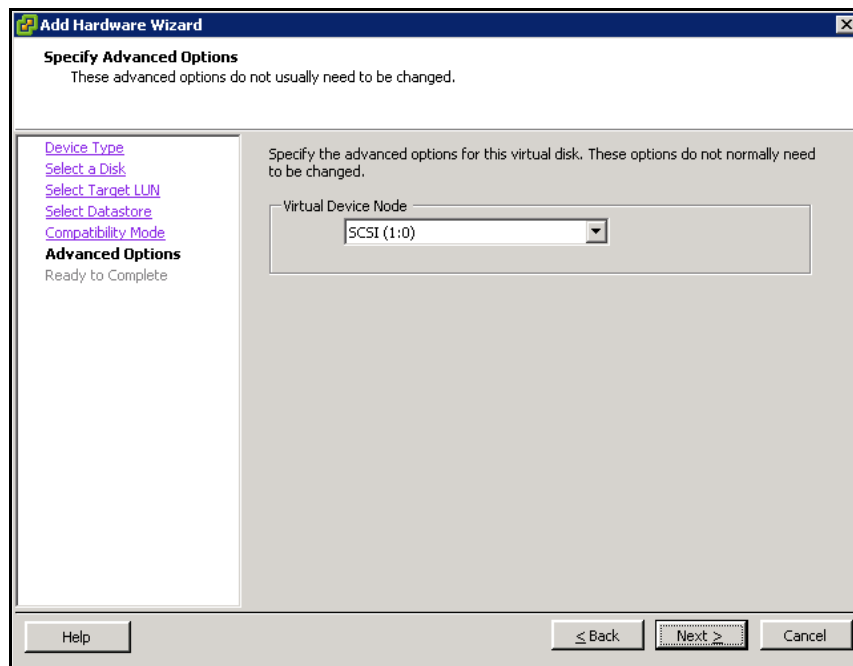

Figure 4-30: Specify Advanced Options Screen (Add Hardware Wizard)
10. Click **Next**. The Specify Advanced Options screen appears (Figure 4-30).